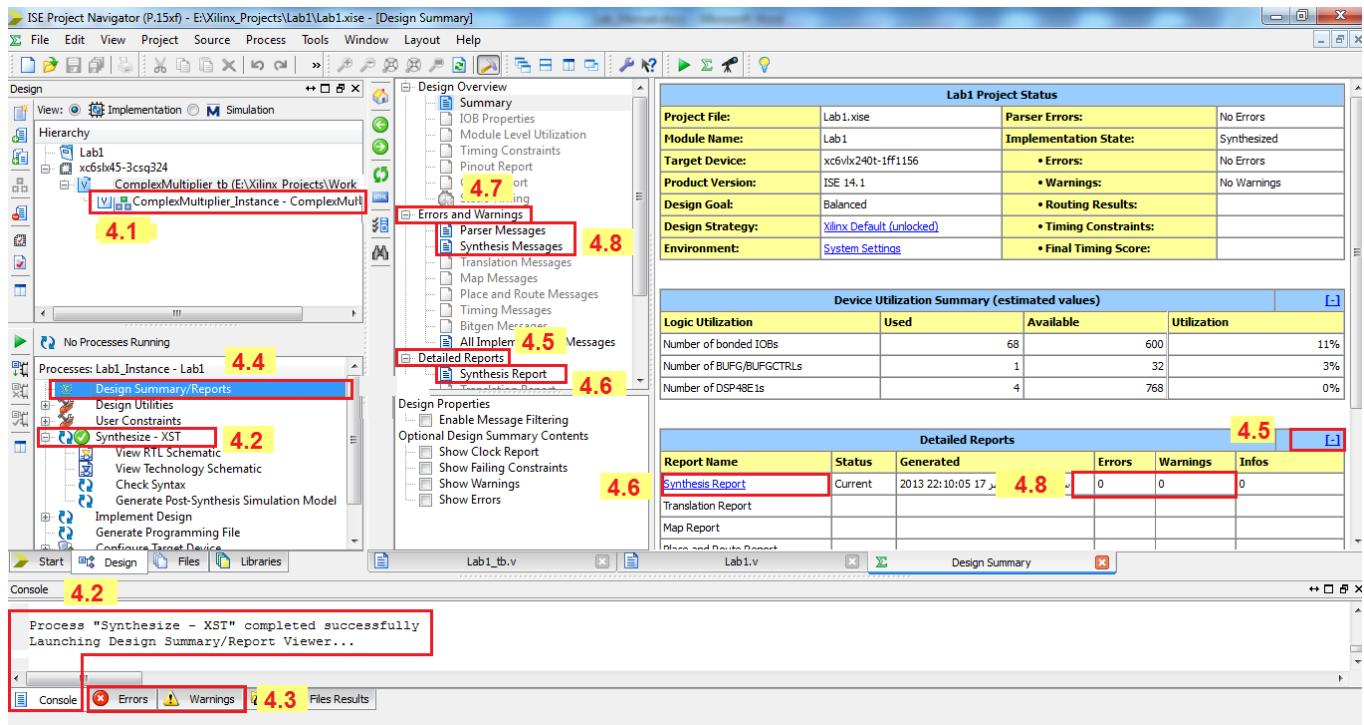

Figure 14.
4. View the Design Summary/Reports (Figure 14)